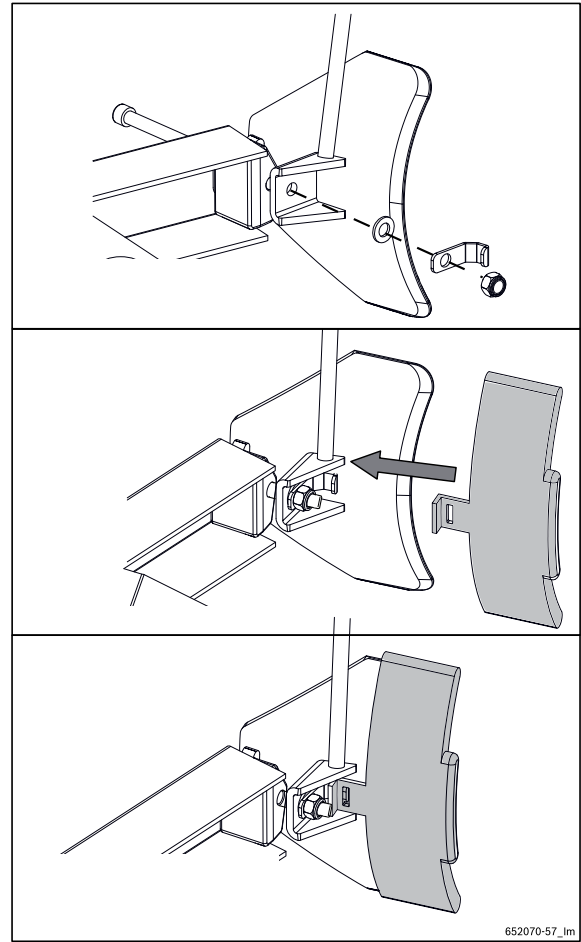

Fig. 22: Mounting of Guard for bead breaker blade
2. Set the 4-position adjusting sleeve (Fig. 22) to suit the tire width (see Tab. 5).